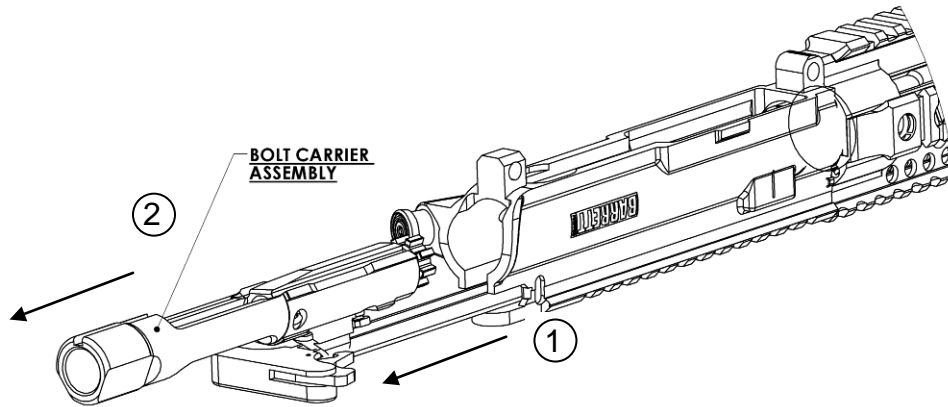

Figure 20-1
1. On a work surface, turn the upper receiver upside down. Pull back the charging handle and withdraw the bolt carrier assembly. (Figure 20-1).